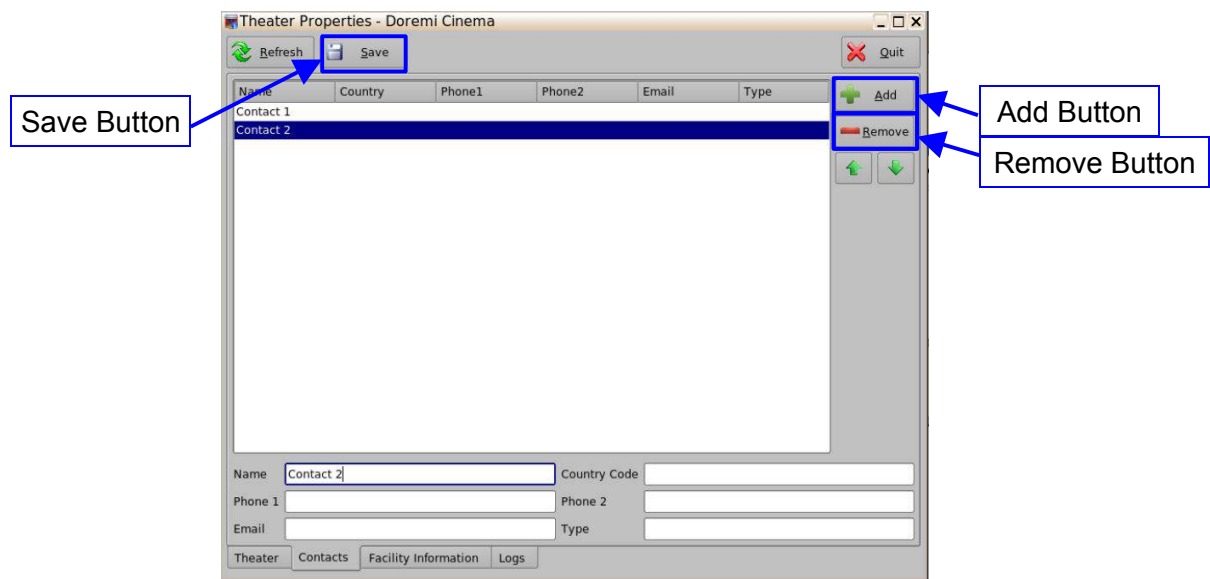

Figure 126: Theater Properties – Contacts Tab
- Click on the Add button (Figure 126).
- Input all available information (Figure 126).
- Click on the Save button to Save the contact (Figure 126).
- Click on the desired entry to highlight it (Figure 126).
- Click on the Remove button (Figure 126).